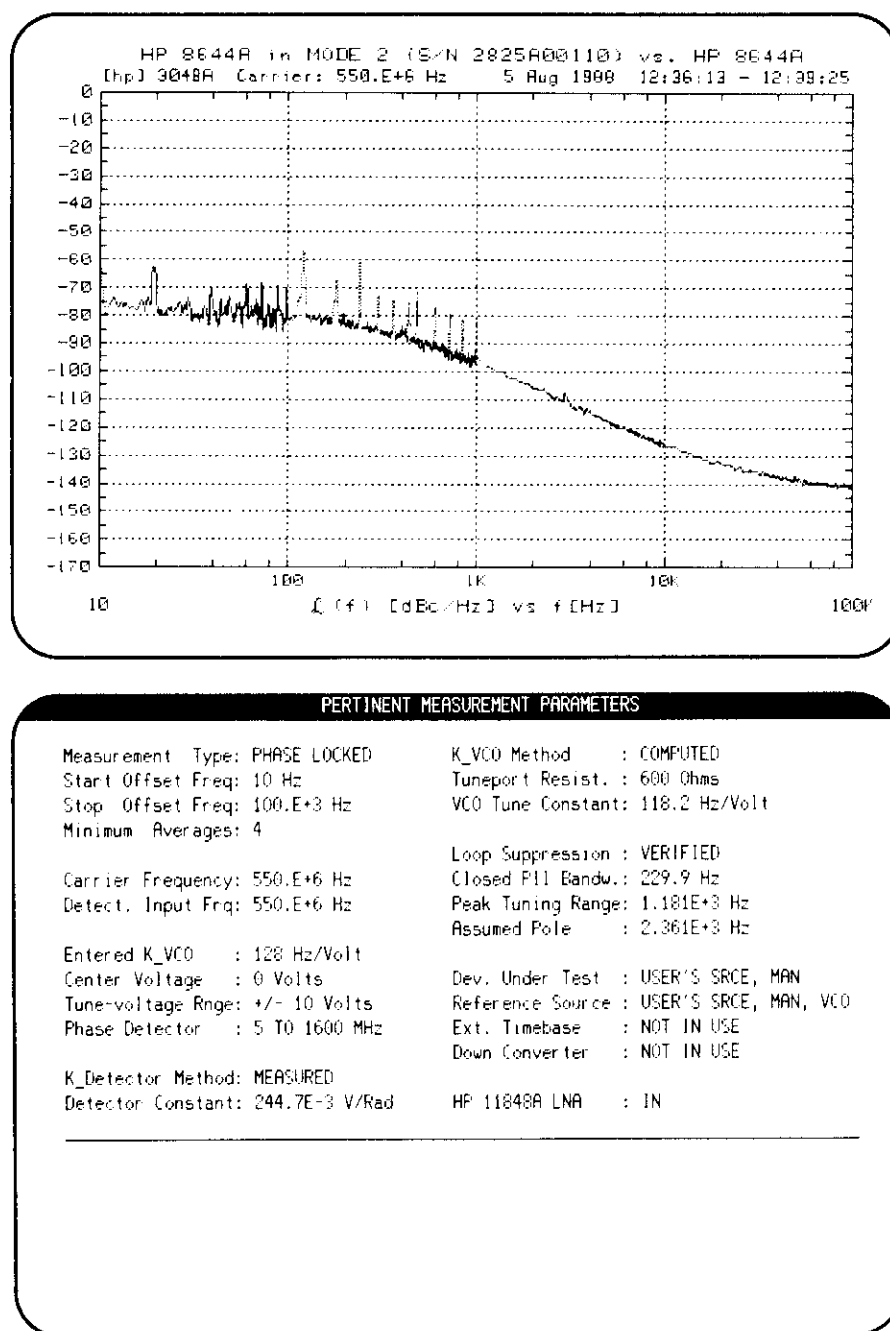

Figure 8-13. Phase Noise Plot and Pertinent Measurement Parameters
13. When the connect diagram appears on the display, verify that the instrument connections are properly made then press the **Proceed** softkey. The phase noise measurement should proceed without error and the phase noise plot should appear as in figure 8-13. Ignoring spurious signals, the phase noise ( $L(f)$ ) should be less than  $-130$  dBc at 20 kHz for the HP 8643A and less than  $-136$  dBc at 20 kHz offset for the HP 8644B. Spurious signals at offsets  $> 10$  kHz should be  $< -100$  dBc for the HP 8643A and  $< -105$  dBc for the HP 8644B.
*Figure 8-13 also shows a listing of measurement parameters. This listing with the graph itself can be printed by holding down the keyboard's SHIFT key and pressing the **Hard Copy** softkey.*